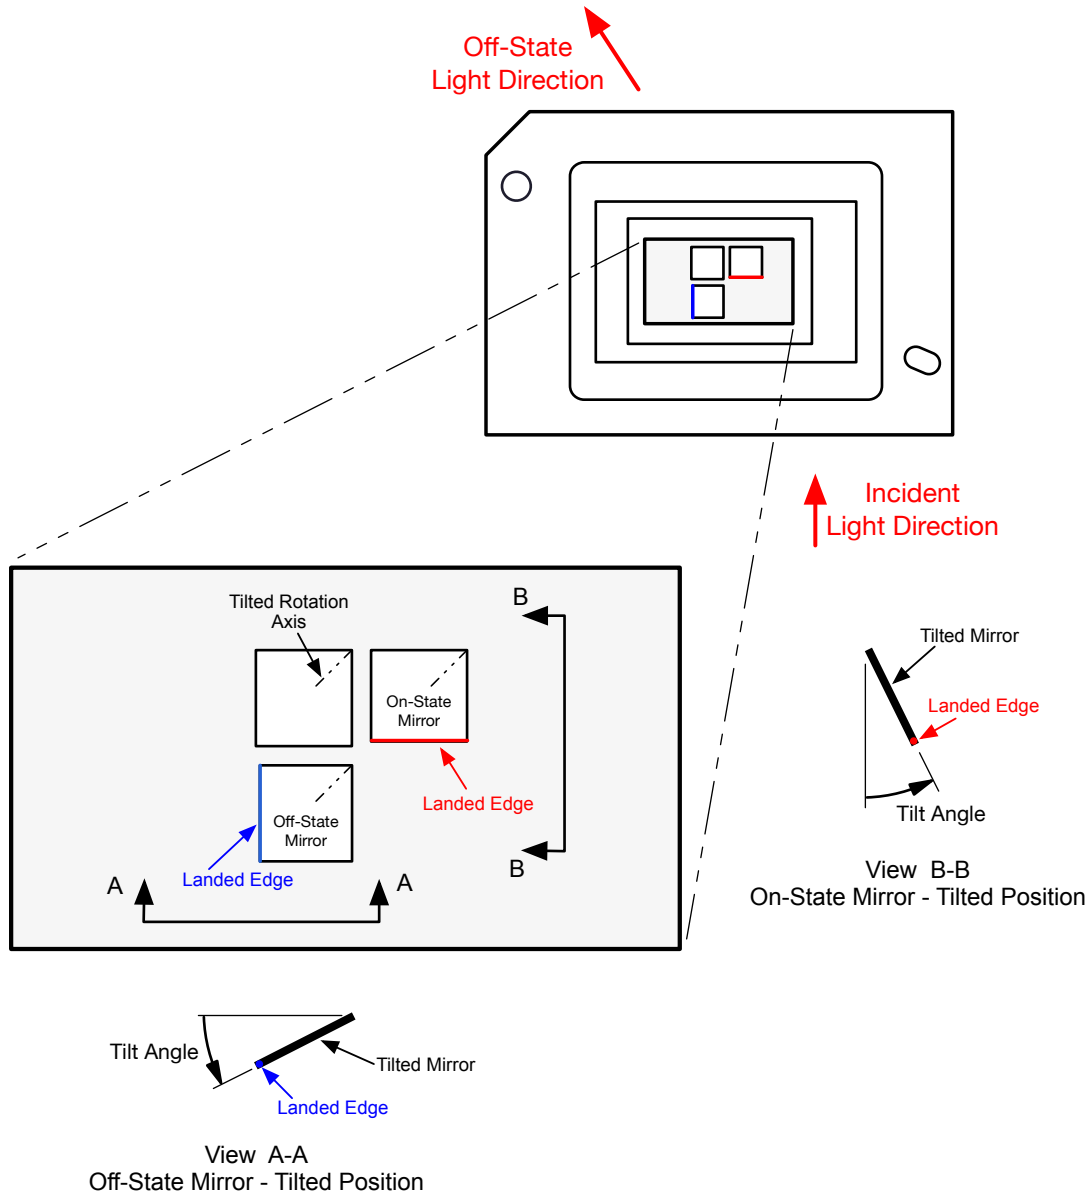

图 6-10. Micromirror Landed Orientation and Tilt
- (1) Measured relative to the plane formed by the overall micromirror array
- (2) Represents the variation that can occur between any two individual micromirrors, located on the same device or located on different devices.
- (3) For some applications, it is critical to account for the micromirror tilt angle variation in the overall system optical design. With some system optical designs, the micromirror tilt angle variation within a device may result in perceivable non-uniformities in the light field reflected from the micromirror array. With some system optical designs, the micromirror tilt angle variation between devices may result in colorimetry variations, system efficiency variations or system contrast variations.
- (4) When the micromirror array is landed (not parked), the tilt direction of each individual micromirror is dictated by the binary contents of the CMOS memory cell associated with each individual micromirror. A binary value of 1 results in a micromirror landing in the ON State direction. A binary value of 0 results in a micromirror landing in the OFF State direction. See 图 6-10.
- (5) The time required for a micromirror to nominally transition from one landed state to the opposite landed state.
- (6) The minimum time between successive transitions of a micromirror.
- (7) An out-of-specification micromirror is defined as a micromirror that is unable to transition between the two landed states within the specified MICROMIRROR SWITCHING Time.
- (8) Efficiency numbers assume 35-degree illumination angle, F/2.4 illumination and collection cones, uniform source spectrum, and uniform pupil illumination.